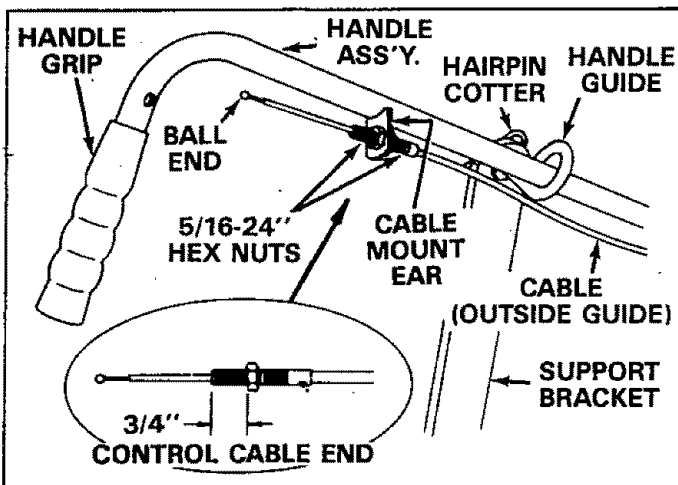
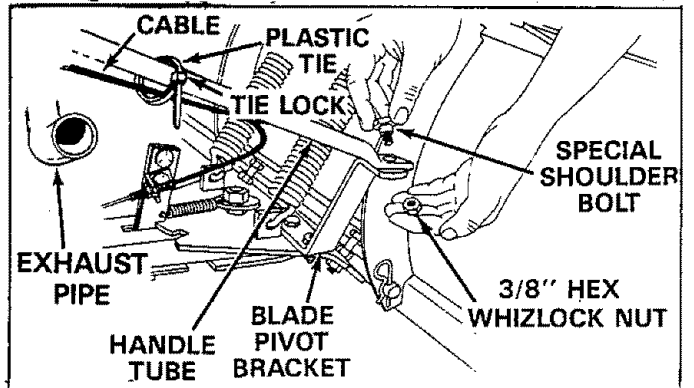
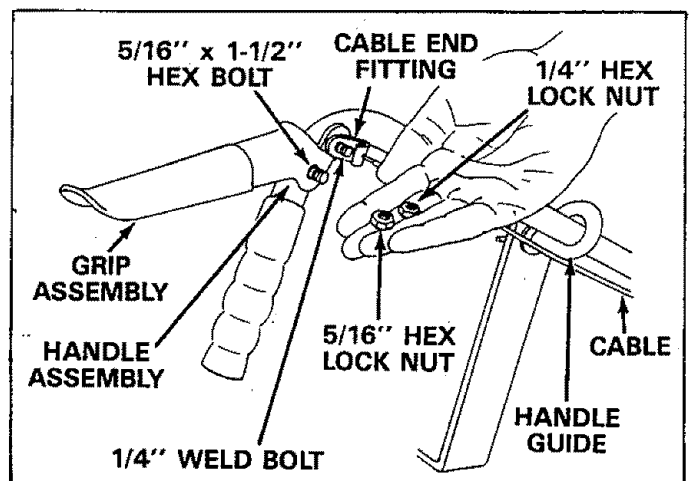

FIGURE 21
FIGURE 22
FIGURE 23
16. Assemble handle assembly down through handle guide as shown in figure 21. Secure lower end of handle to top side of blade pivot bracket with special shoulder bolt (on top) and 3/8" hex whizlock nut underneath. See figure 22.
17. Assemble one 5/16-24" hex nut onto threaded end of control cable approximately 3/4" from end. Assemble threaded end of cable up through cable mount ear and secure with second 5/16-24" hex nut. See figure 21.
18. Assemble handle grip on upper end of handle assembly if not already pre-assembled. See figure 21.
19. Wrap plastic tie around handle tube and cable, (see figure 22), assembling end of tie through lock. Pull plastic tie tight to retain cable to handle tube just above exhaust pipe. Cut off extra plastic end.
20. Assemble grip assembly to handle assembly using one 5/16" x 1-1/2" hex bolt and one 5/16" hex lock nut. See figure 23. **NOTE: Do not over tighten lock nut, grip assembly must pivot freely.**
21. Assemble ball end of cable (see figure 21), through round hole in cable end fitting and into slot of fitting. See figure 23. Assemble cable end fitting over 1/4" weld bolt on grip assembly and secure with one 1/4" hex lock nut. **NOTE: Do not over tighten lock nut, cable fitting must pivot freely.**